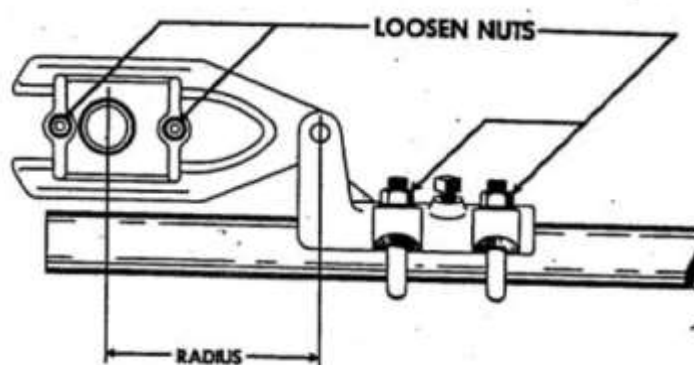

Figure 19: Adjustable Arm & Clevis Bolts
- c. Loosen the adjustable arm and clevis bolts as shown in Figure 19.